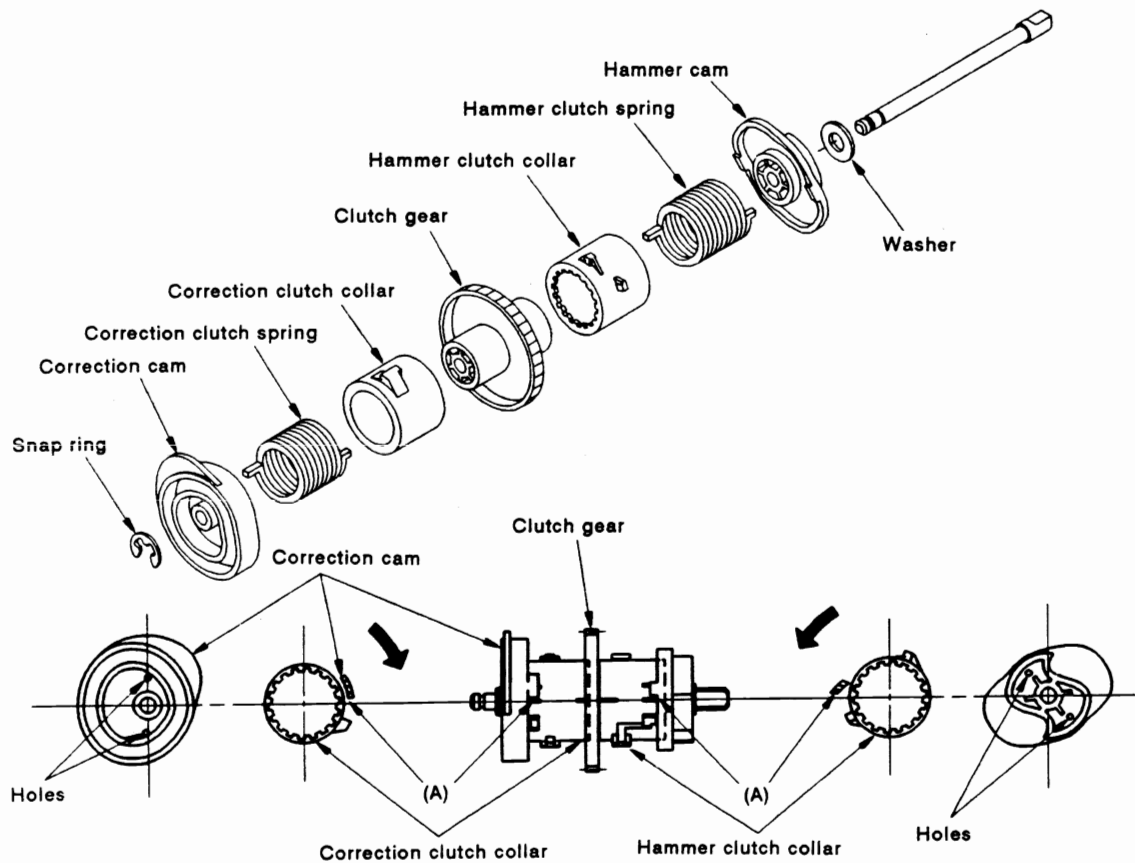

Fig. 12.2
Reassembly of these parts requires correct positioning. (Fig. 12.2)
Fit the correction clutch spring so that part (A) of the correction cam comes between the two small grooves of the correction clutch collar. The two grooves correctly locate its position when the clutch gear is rotated in the direction indicated by the arrow, with an correction clutch collar held still. This is done by correctly positioning the holes of the correction cam. See Fig. 12.2